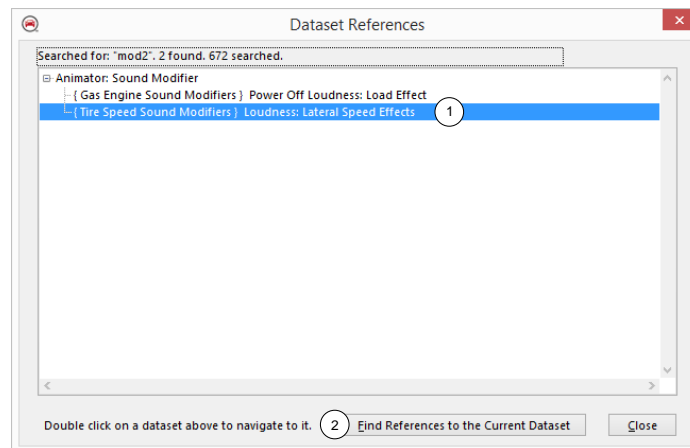
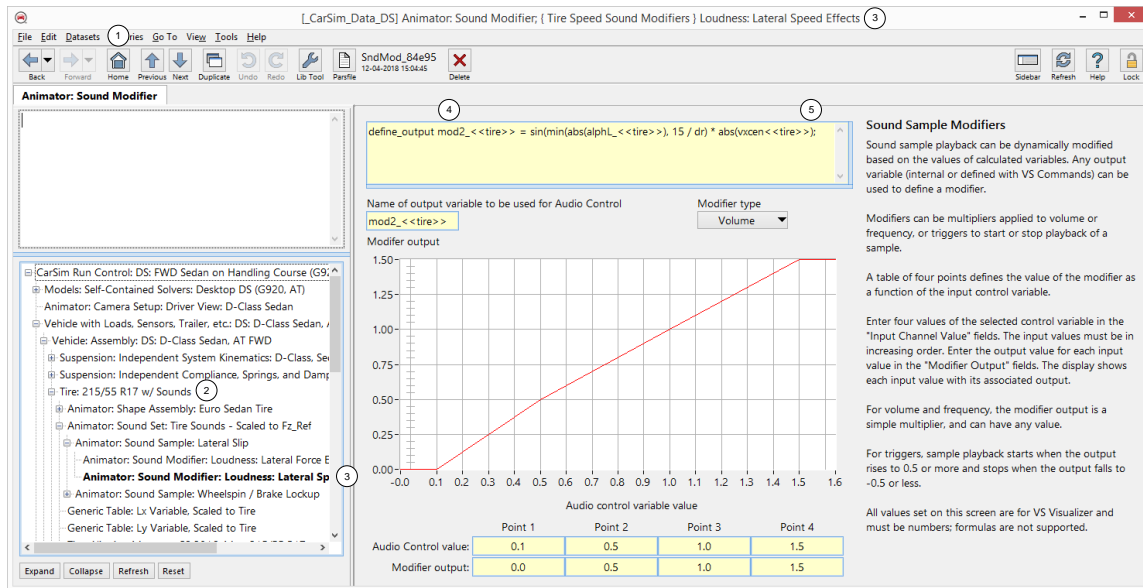

Figure 39. Dataset References to mod2.
Figure 40. Animator: Sound Modifier dataset for Loudness: Lateral Speed Effects.
The Windows DS database contains two references to the output variable **mod2** (Figure 39, (1)). Double-click on the second instance, located in **Tire Speed Sound Modifiers**. The button **Find References to the Current Dataset** will become active ((2)). Click this button to browse to the selected dataset (Figure 40).
As noted above, modify the VS Command equation by adding a closing parenthesis at the end of the expression, then click the **Home** button (Figure 40, (1)) to return to the **Run Control** screen. Since the same tire dataset is used for all four tires, we need only modify this **Animator: Sound Modifier** dataset once.